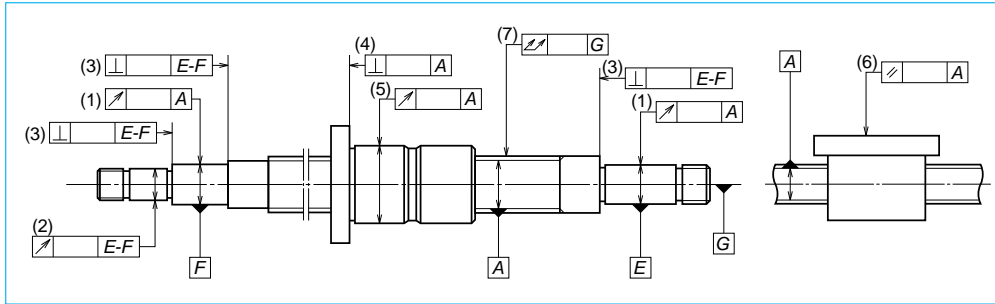

**Fig. 1.2 Bearing structure to provide pre-tension**
- Set pre-tension. (Fig. 1.2)
Fig. 1.2 shows the bearing support structure in such occasion.